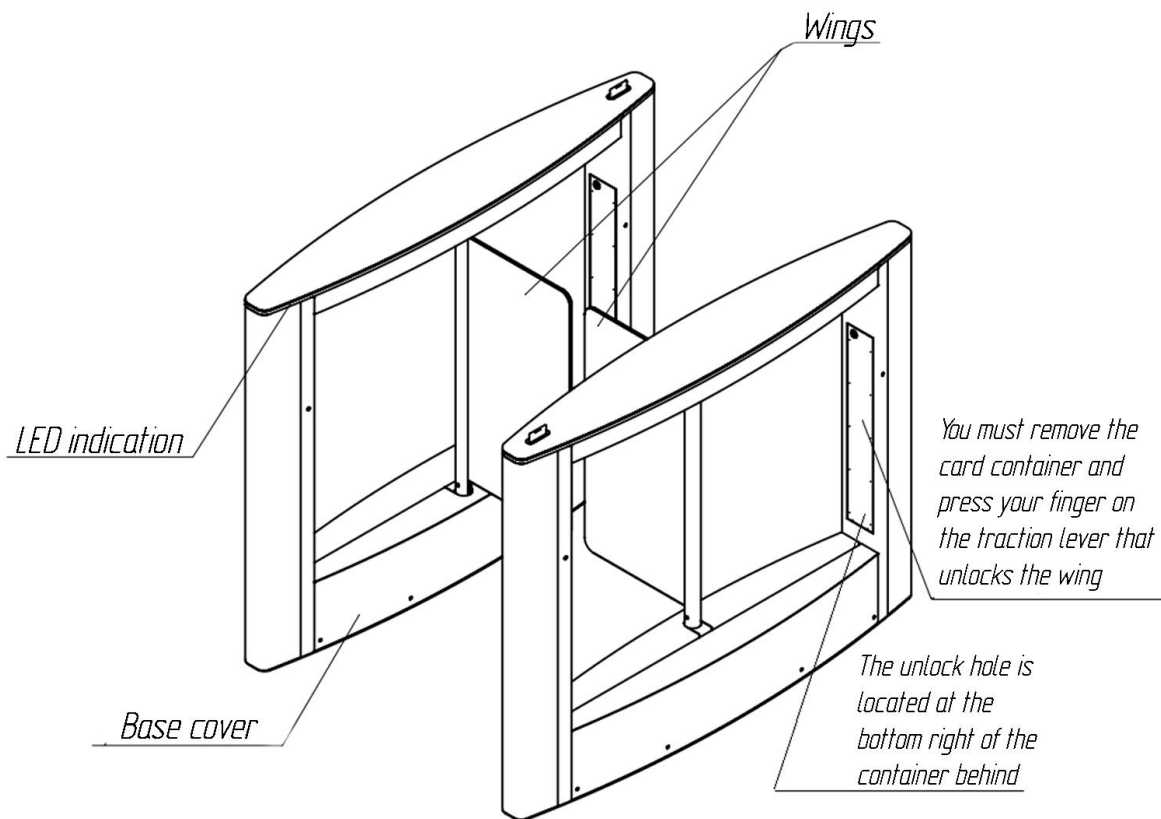

Fig.5 Manual disblock
The speedgate has manual disblock of the swings in case of power loss. In order to disblock them it's necessary to (fig.5):
- Press and hold BUT1 button on the board of the card collector (Fig. 5). When the button is pressed shutter is open forcedly and a continuous audio signal is performed;